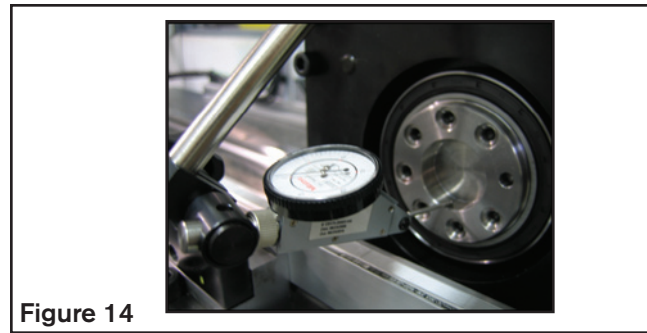

Figure 14
3. Position the contact point of the dial indicator at bottom dead center of the pilot bore as shown in Figure 14. Rotate slowly for a minimum of one complete turn and note the amount of total runout in one rotation.